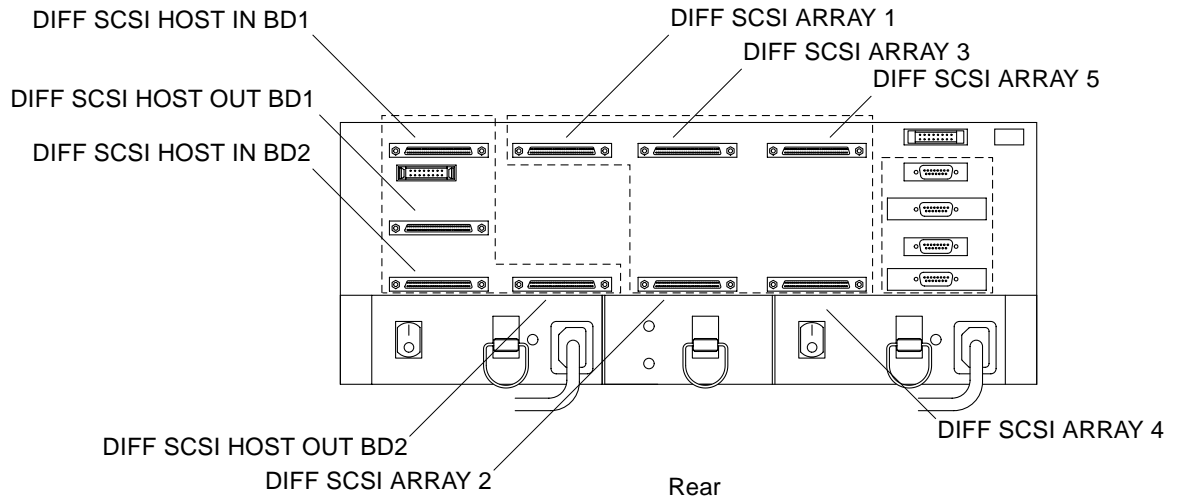

FIGURE 2-9 Differential SCSI connectors
1. **Install 16-bit, differential terminators to both HOST OUT connectors on the back of the controller module** (FIGURE 2-9).
- 16. Install the 16-bit, differential terminators to both HOST IN connectors on the back of the controller module** (FIGURE 2-9).
- 12. Install the 16-bit, differential terminators to both HOST IN connectors on the back of the controller module** (FIGURE 2-9).
1. **Make sure the power switches for both power supplies in the controller module are off (FIGURE 2-9).**